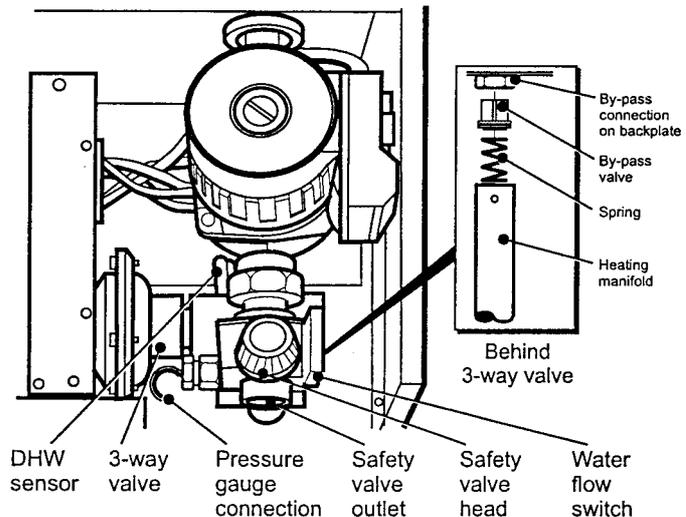

Fig. 22
9.18 3-WAY VALVE (See Fig. 22)
Important: Be careful not to lose the spring and valve from the by-pass connection when removing the valve (see Fig. 22).
DHW sensor (see Fig. 22)